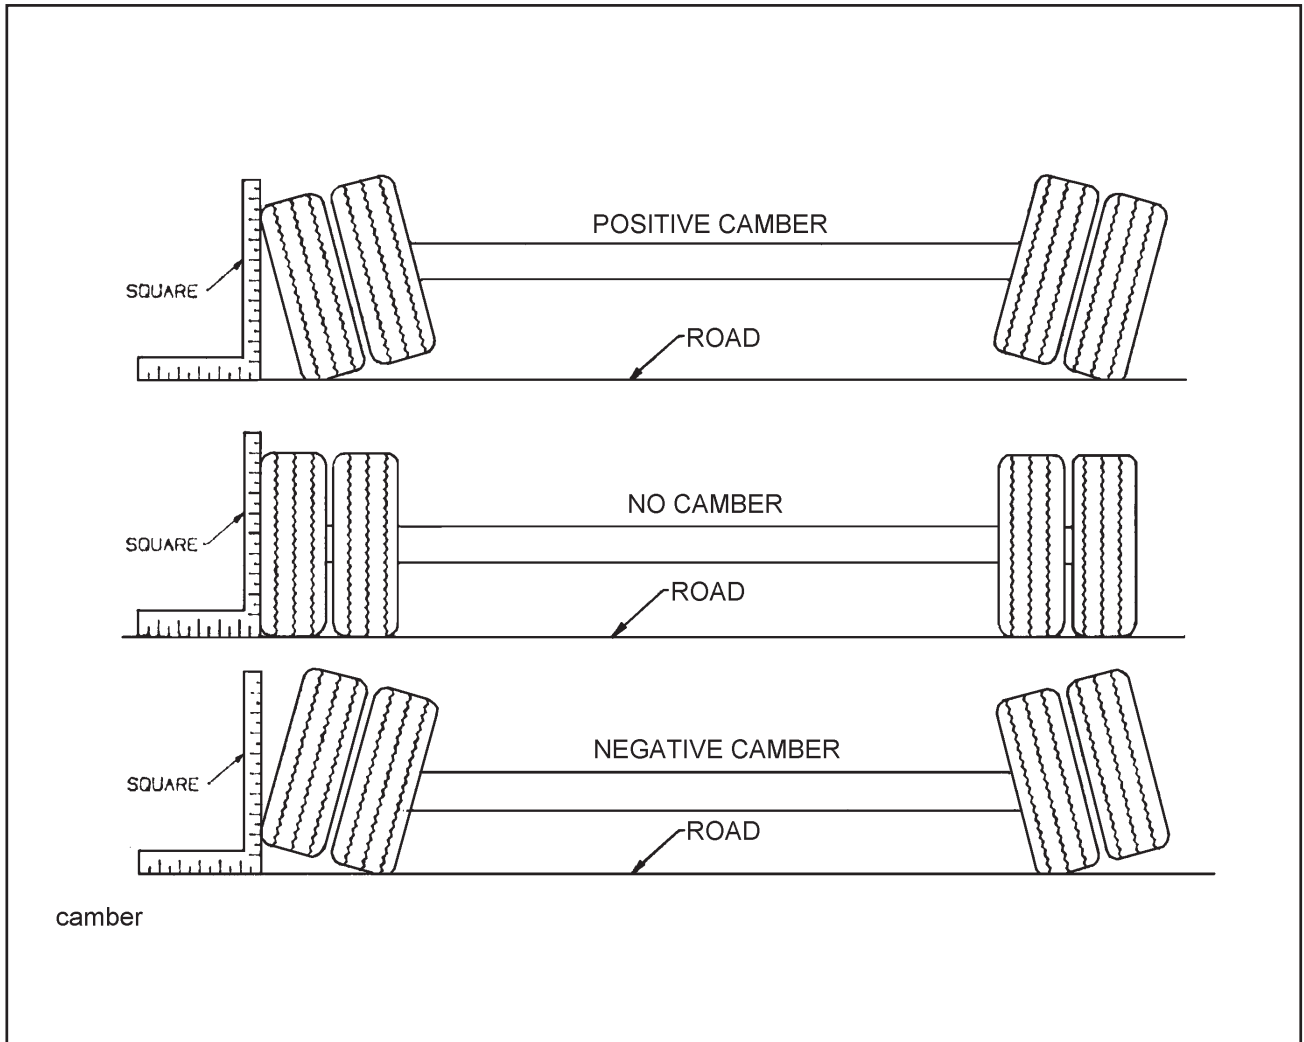

Figure 4-5 Examples of Camber
- d. Follow the same procedures as in Section 4-7.1 b. and c., except place the axle gauge above and below the axle. If gauge point gap is found, the axle has positive or negative camber. The trailer axle has no camber from the factory. If it is found to have positive or negative camber, axle replacement is necessary (See Figure 4-5 for examples of camber).